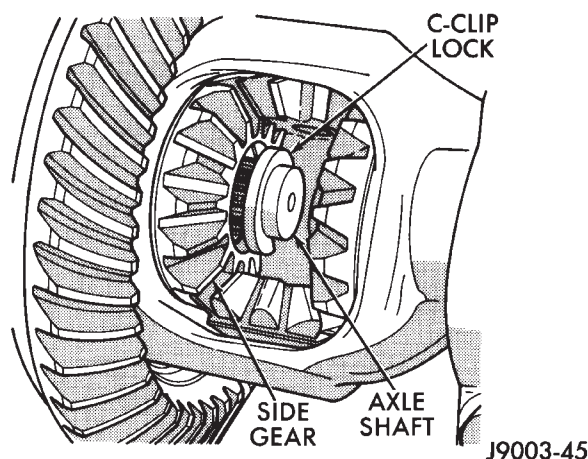

Fig. 12 Axle Shaft C-Clip Lock
(7) Force the axle shaft in toward the center of the vehicle. Remove the axle shaft C-clip lock from the axle shaft (Fig. 12).
(8) Remove the axle shaft. Use care to prevent damage to the axle shaft bearing and seal, which will remain in the axle shaft tube.
(9) Inspect axle shaft seal for leakage or damage.
(10) Inspect the roller bearing contact surface on the axle shaft for signs of brinelling, galling and pitting.
(11) If any of these conditions exist, the axle shaft and bearing or seal must be replaced.